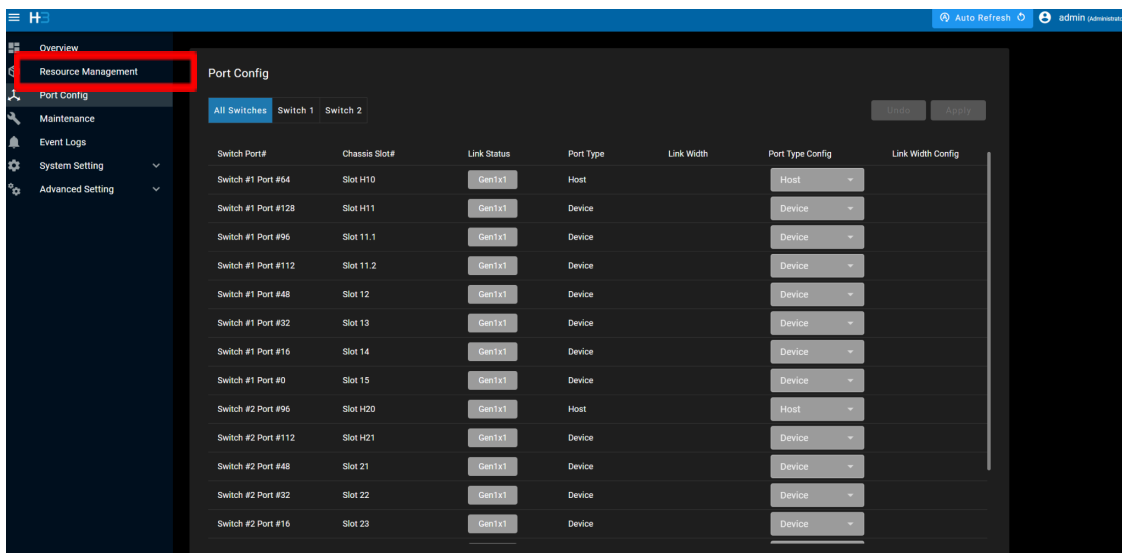

Figure 124. Port Configuration Interface for Falcon 5012 System
- A. Access the system GUI and navigate to the Port Config interface (refer to Figure 124).